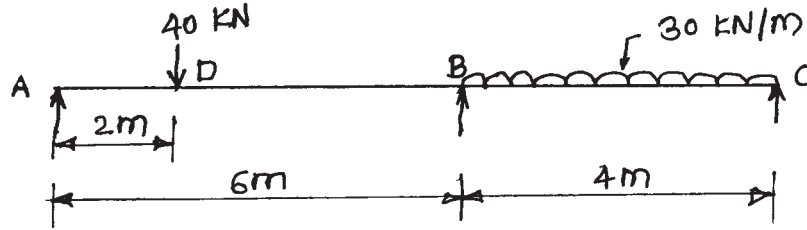

Fig. No. 1
- a) Calculate support moment and draw BM diagram for a continuous beam as shown in Figure No. 1. Use three moments Theorem.